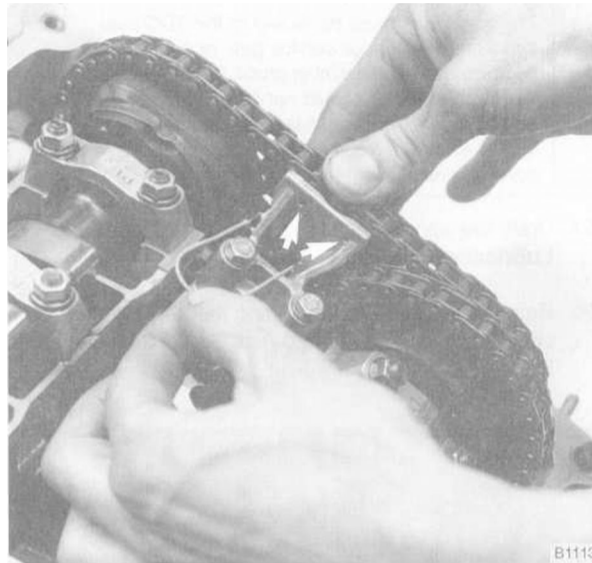

Fig. 16. Secondary timing chain tensioner being locked down. Press tensioner down fully and insert locking wire through holes (arrow)
27. Depress the secondary timing chain tensioner and lock it in the down position by inserting BMW special tool no. 11 3 290. Alternatively, a stiff piece of wire can be used. See Fig. 16.